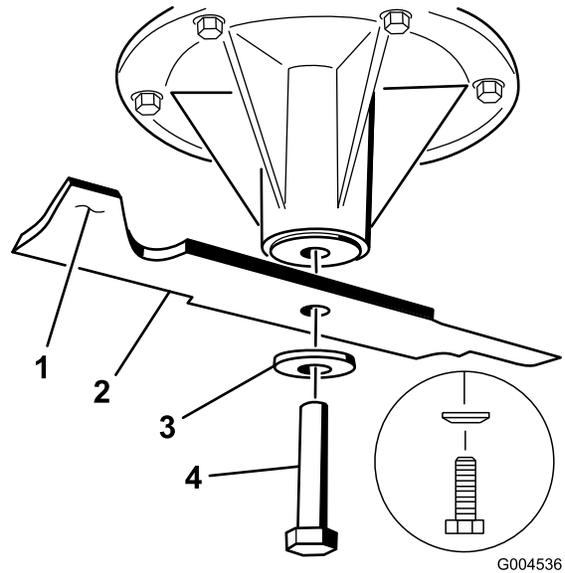

Figure 81
1. Install the blade onto the spindle shaft (Figure 81).
2. Install the spring disk and blade bolt. The spring disk cone must be installed toward the bolt head (Figure 81). Torque the blade bolt to 85-110 ft-lb (115-150 N-m).